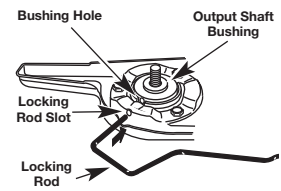
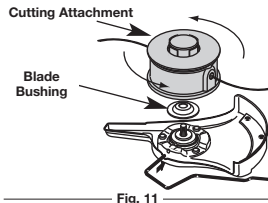

Fig. 6
Fig. 11
1. Align the shaft bushing hole with the locking rod slot and insert the locking rod into the bushing hole (Fig. 6).
6. Align the shaft bushing hole with the locking rod slot and insert the locking rod into the bushing hole (Fig. 6).
5. Align the shaft bushing hole with the locking rod slot and insert the locking rod into the shaft bushing hole (Fig. 6). Place the blade retainer on the output shaft with the flat surface against the output shaft bushing (Fig. 11). Screw the cutting attachment counterclockwise onto the output shaft. Tighten securely.
NOTE: The blade retainer must be installed on the output shaft in the position shown for the cutting attachment to work correctly (Fig. 11).